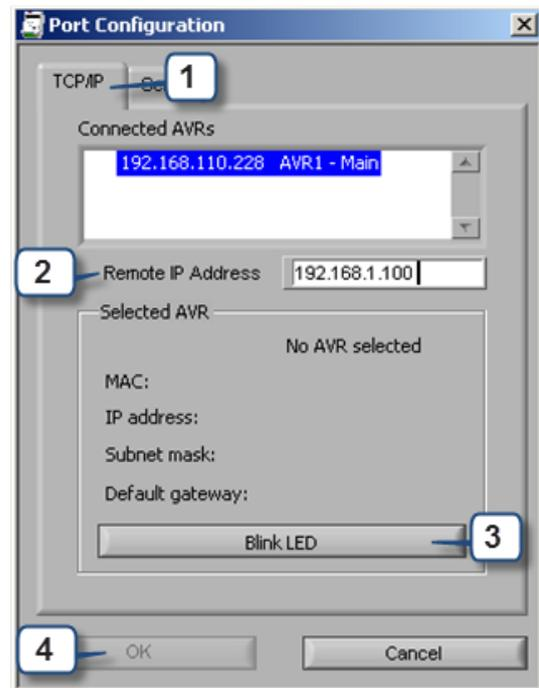

Figure 6-6 Remote IP Address Configuration.
1. To connect to the AVR using a TCP/IP connection, select the "TCP/IP" tab first. See *Figure 6-6*.